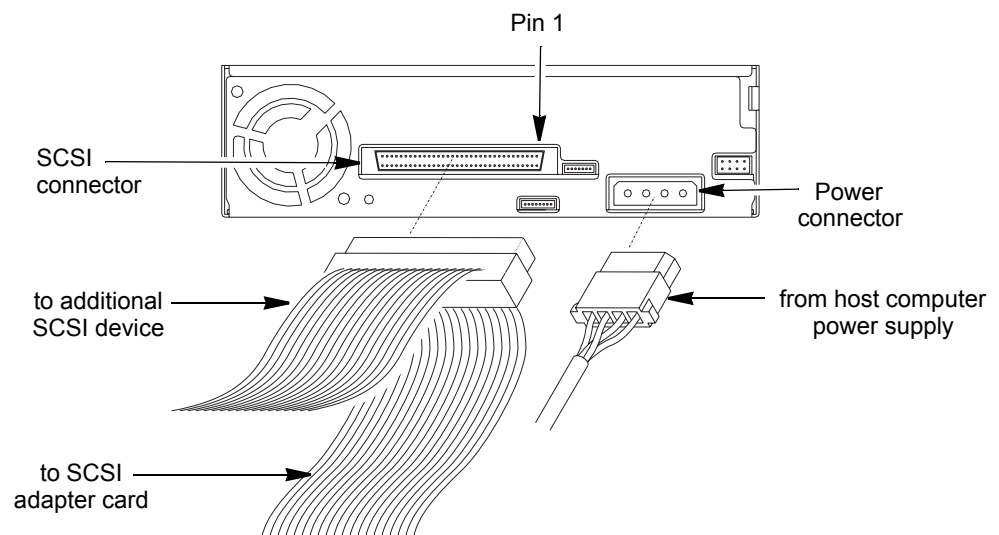
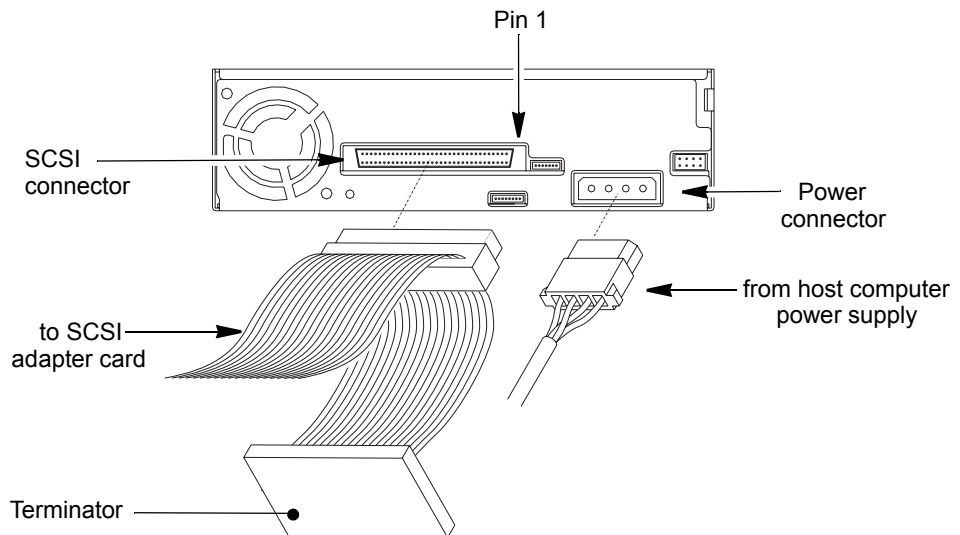

Figure 2-3 Connecting the SCSI cable and power cable (another device is the last device on the bus)
Figure 2-4 Connecting a SCSI cable (tape drive is last device on the bus)
To avoid damaging the tape drive, make certain you connect pin 1 on the cable to pin 1 on the tape drive. Pin 1 is on the right, top row of the connector pins (see Figure 2-3).
- b. Connect one of the enclosure's internal SCSI cables to the SCSI connector on the back of the tape drive (see Figure 2-3). This cable must meet the guidelines in "SCSI Cable Requirements," beginning on page 41.
Note: If the tape drive is the last device on the SCSI bus and if the SCSI cable has an unused connector at the end, you can terminate the bus there, as shown in Figure 2-4. Alternatively, you can terminate the bus by installing a pass-through terminator on the tape drive's SCSI connector.
Locate the enclosure's internal power cable and connect it to the tape drive's power connector, as shown in Figure 2-3 or Figure 2-4. The enclosure's power cable connector must be an AMP 1-480424-0 series, or equivalent.